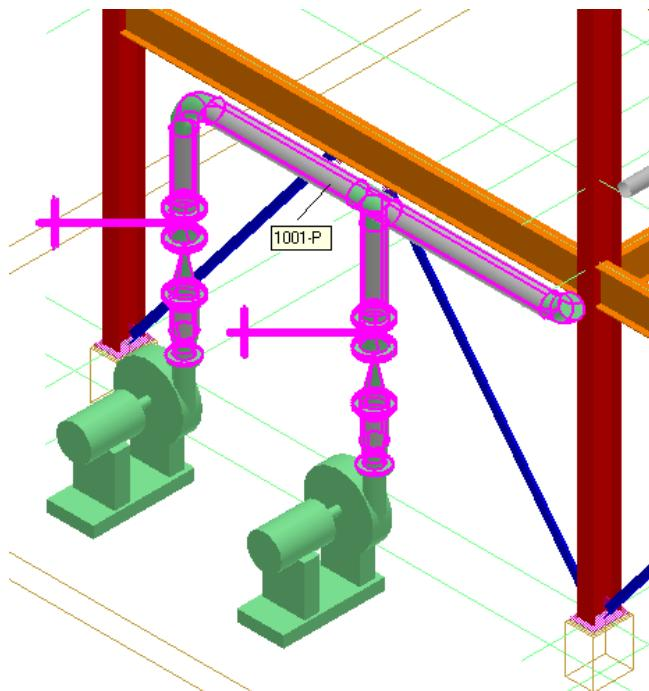

Figure 15. 22: Select Pipe Parts in Pipeline 1001-P
15. Use the **Inside fence** option on the **Common** toolbar to select all piping parts belonging to the pipeline **1001-P** and select the piping parts, as shown in Figure 15. 22.